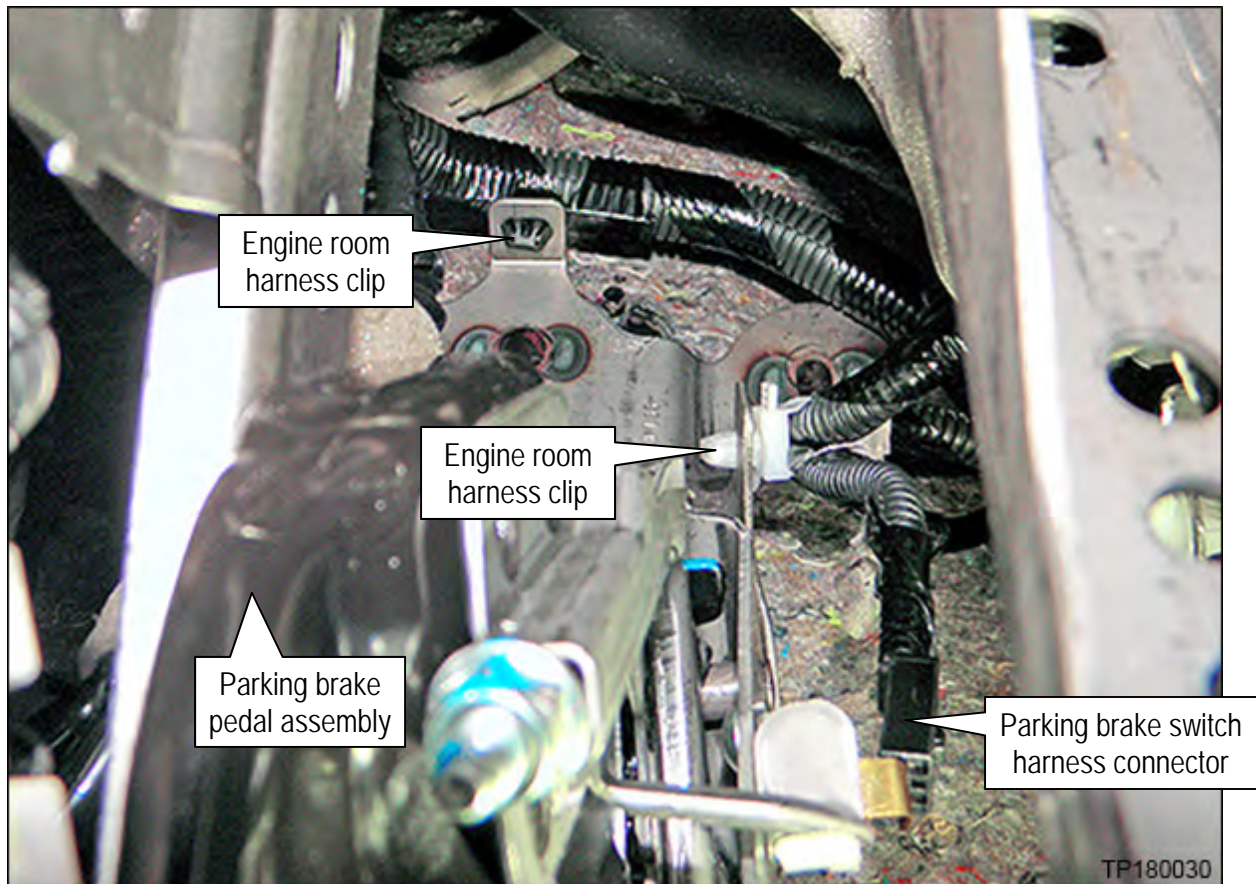

Figure 4
7. Unclip the engine room harness from the parking brake pedal assembly in the two locations shown in Figure 4 and unplug the parking brake switch harness connector.